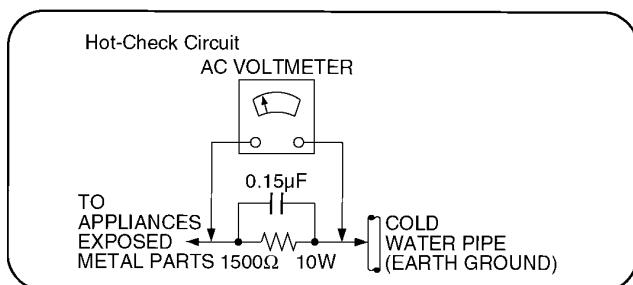

Figure 1
**(See Figure 1.)**
2. Connect a  $1.5k\Omega$ , 10 watts resistor, in parallel with a  $0.15\mu F$  capacitors, between each exposed metallic part on the set and a good earth ground such as a water pipe, as shown in Figure 1.